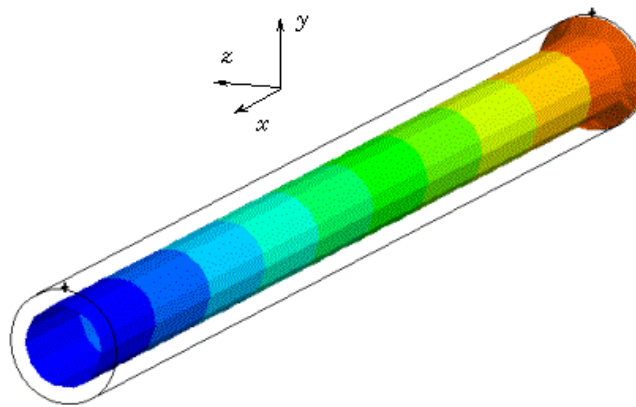

Figure 9.6.1: Pressure Contours on an Isosurface of Velocity Magnitude of 0.85
For example, if you create an isosurface object specified by a velocity magnitude of 0.85 for a cylindrical pipe model and specify the display of a **Bands** pressure contour, FlowLab displays the postprocessing object shown in Figure 9.6.1.
This object is similar to that shown in Figure 9.6.1 but is defined with Halfspace (0) and (-) options. As a result, the object includes two components: